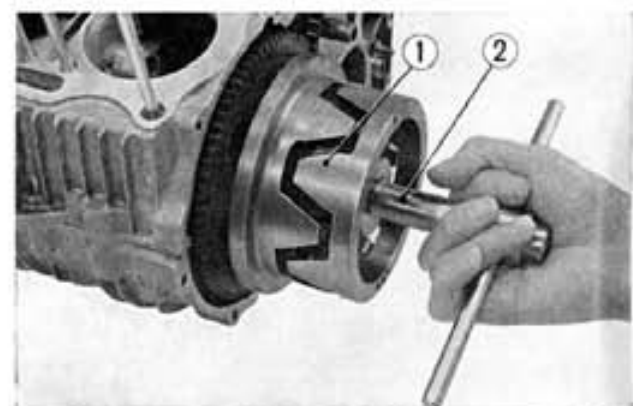

Fig. 8-5 ① A.C. generator rotor
1. Remove the dynamo cover and pull out the generator rotor using the rotor puller (Tool No. 07933-3000000) (Fig. 8-5)